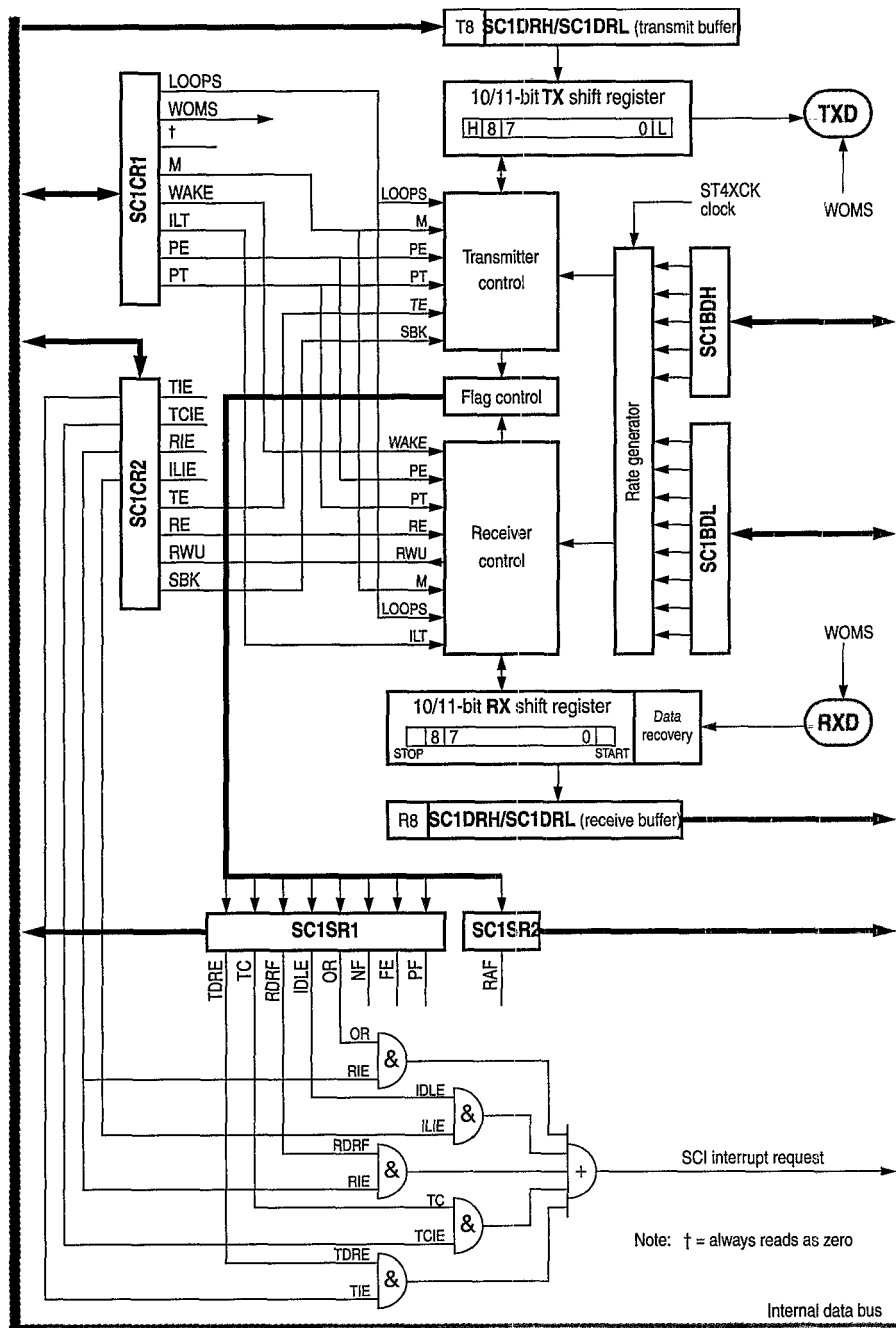

Figure 7-2 SCI1 block diagram
The SCI transmitter includes a parallel data register (SC1DRH/SC1DRL) and a serial shift register. The contents of the shift register can only be written through the parallel data register. This double buffered operation allows a character to be shifted out serially while another character is waiting in the parallel data register to be transferred into the shift register. The output of the shift register is applied to TXD as long as transmission is in progress or the transmit enable (TE) bit of serial communication control register 2 (SC1CR2) is set. The block diagram, Figure 7-2, shows the transmit serial shift register and the buffer logic at the top of the figure.